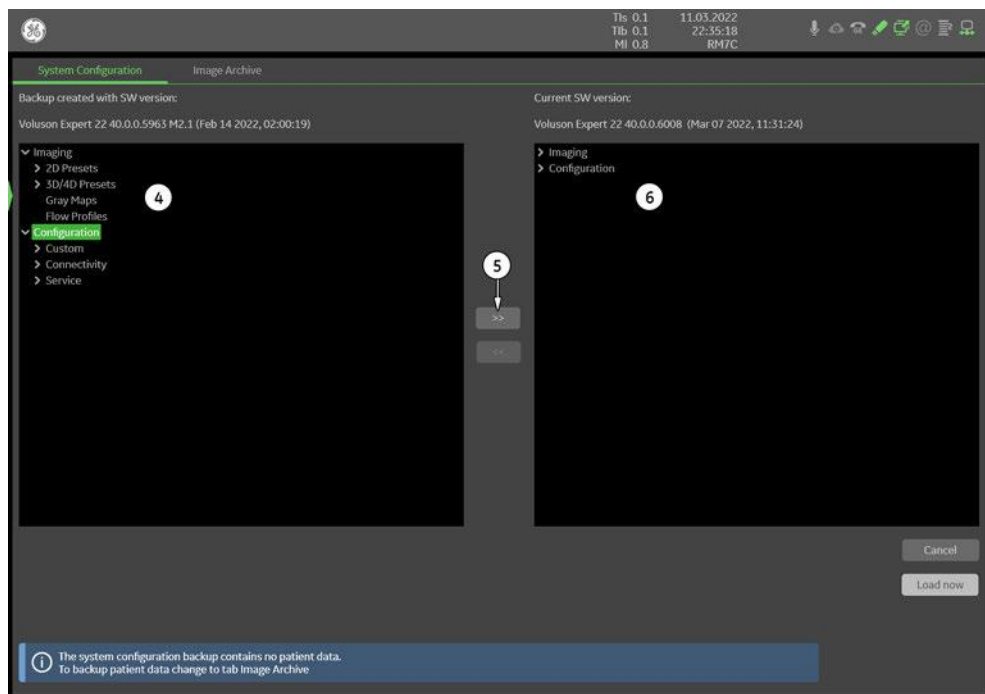

Figure 4-13: select items to be loaded
- Settings and data that are allowed for restore are listed in the left "Backup Data" field (4). For detailed description of available items refer to Section 4.4.1 "Save System Configuration Backup" on page 4-11.
8. Select all the items to be loaded. Therefore, choose items and click the **[>>]** button (5) to copy items into the right "Load Data" field (6).
- For example: All **Imaging** settings and all **Configuration** settings will be loaded, see Figure 4-13 above.
- Click the [**>**] sign next to an item (7) to open the content tree.
- Return selected item (8) from the "Load Data" field to "Backup Data" field select the [**<<**] button (9).